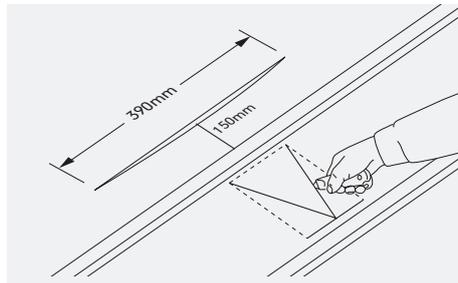

Fig. 2 – Make aperture in underlay
- 5 Make a horizontal cut in the underlay, 390mm long, at a distance 150mm above bottom edge of tiling batten supporting vent tile (Fig. 2).